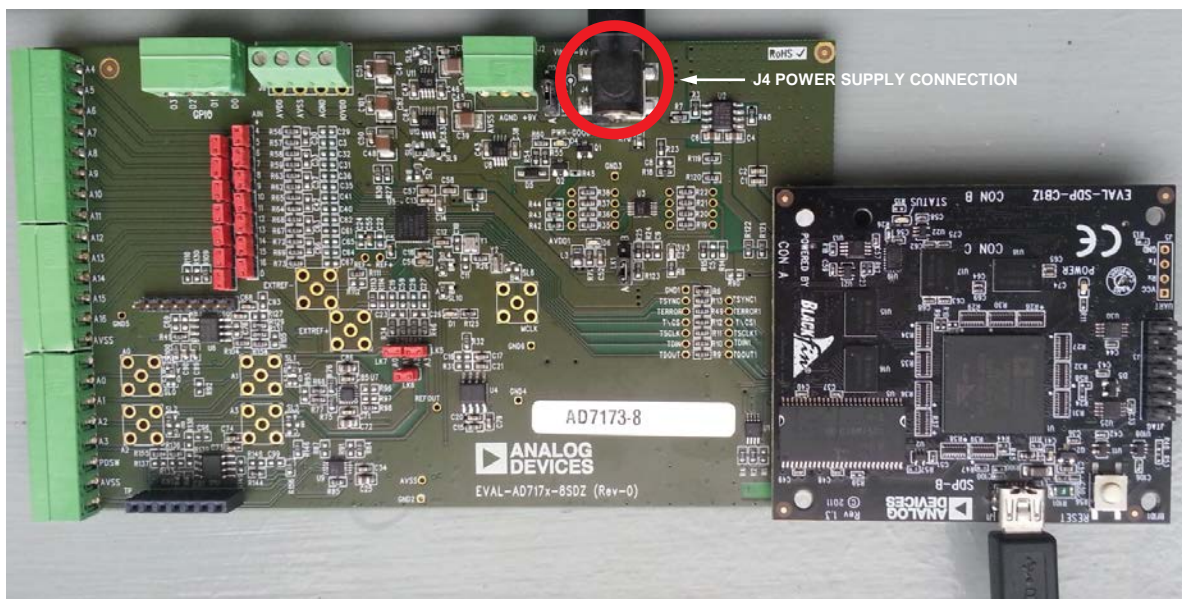

Figure 2. Hardware Configuration, Setting Up the **EVAL-AD7173-8SDZ**
2. Connect the **EVAL-SDP-CB1Z** board to the **EVAL-AD7173-8SDZ** board, as shown in Figure 2.
4. Connect the external 9 V power supply to Connector J4 of the **EVAL-AD7173-8SDZ** board as shown in Figure 2. Set LK2 to Position B.